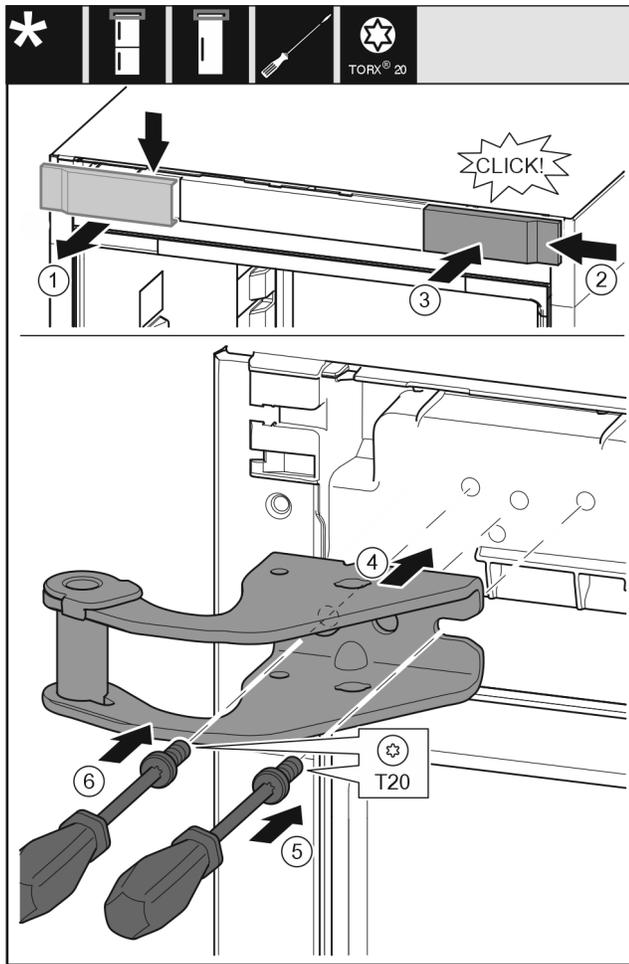

Fig. 13
- ▶ Take off the cover to the front from above. Fig. 13 (1)
- ▶ Rotate the cover 180° and clip onto the other side from the right. Fig. 13 (2)
- ▶ Latch the cover into place. Fig. 13 (3)
- ▶ Position the upper bearing bracket. Fig. 13 (4)
- ▶ Insert the screw with a T20 screwdriver and tighten it. Fig. 13 (5)
- ▶ Insert the screw with a T20 screwdriver and tighten it. Fig. 13 (6)